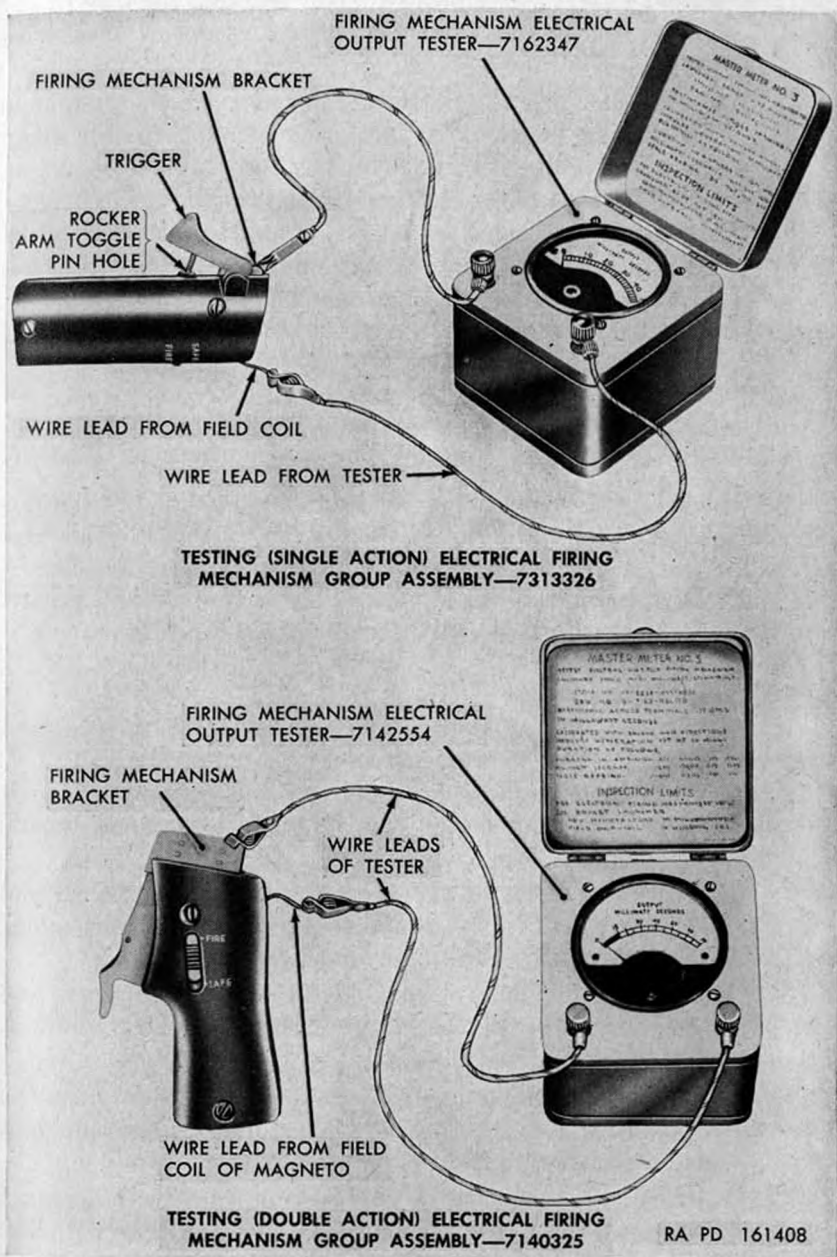

Figure 39. Testing electrical firing mechanism (removed from launcher).
- (1) The electrical firing mechanism must be tested to determine its serviceability. Firing mechanism 7313326 is serviceable if its output is 15 milliwatt seconds; firing mechanism 7140325 is serviceable if its output is 40 milliwatt seconds and if no electrical impulse occurs during release of trigger. Both firing mechanisms must operate smoothly when completely assembled to launchers (with grips installed).
- (2) Firing mechanism electrical output testers are used to check the serviceability of the firing mechanism (table II).
- (3) In an emergency, when tester 7142554 or 7142254 is not available, it is permissible to use tester 7162347 (fig. 39) on firing mechanism 7140325 (double action on trigger squeeze), but this tester is primarily for use with firing mechanism 7313326 (single action on trigger squeeze). Testers 7142554 and 7142254 may be used on both types of firing mechanism.
- (4) The following procedures should be used for testing the electrical firing mechanism removed from launcher:
- (a) Clip one wire lead (fig. 39) of tester to firing mechanism bracket. Clip remaining wire lead to the lead from field coil.
- (1) Remove the grips from the firing mechanism (par. 46b).
- (2) Clip one wire lead of tester 7142254 or 7142554 to firing mechanism bracket (fig. 39).
- (3) Remove the terminal screw that retains the terminal of the coil lead wire and the contact lead wire (fig. 28), freeing the terminal. Clip the other wire lead of the tester to the field coil lead wire (fig. 39).
- (4) Operate firing mechanism 7140325 by squeezing trigger. Avoid quickly repeated operation of trigger. Pause at least 10 seconds between trigger squeezes to permit time for energy to dissipate, preventing damage to the tester.
- (5) Note that no electrical impulse is indicated on tester during release of trigger. If an electrical impulse occurs during release of trigger, adjust firing mechanism as described in paragraph 79b. If this condition cannot be corrected by adjustment, discard the firing mechanism and replace with a serviceable mechanism.
- (6) Note maximum reading on tester. If the electrical output of the firing mechanism measures less than 40-milliwatt seconds, do not correct the output. Discard the